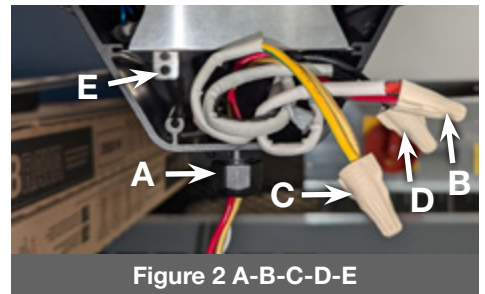
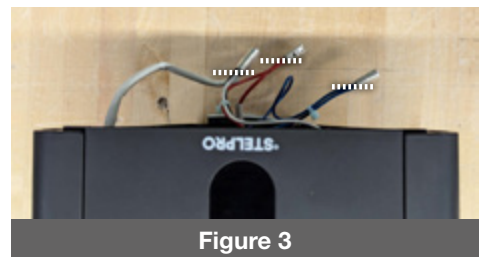

Figure 2 A-B-C-D-E
Figure 3
2 Remove the wires from the power cable by removing the twist-on wire connectors and unscrewing the cable clamp (**Figure 2-A-B-C-D**).
3 Cut the tie wrap holding the power wires in place and unscrew the one (1) screw (**Figure 2-E**) to remove the junction box divider. Set them aside. Remove the insulating caps and cut the wire terminals (**Figure 3**).